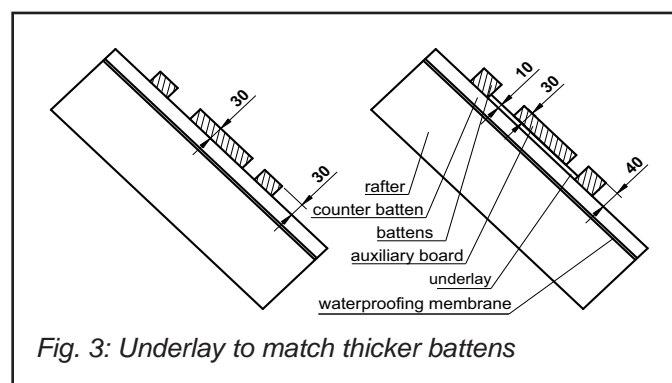

Fig. 3: Underlay to match thicker battens
- The height of the auxiliary board from the counter batten shall be equal to the batten thickness which can be reached by underlying the auxiliary board (see Fig. 3).